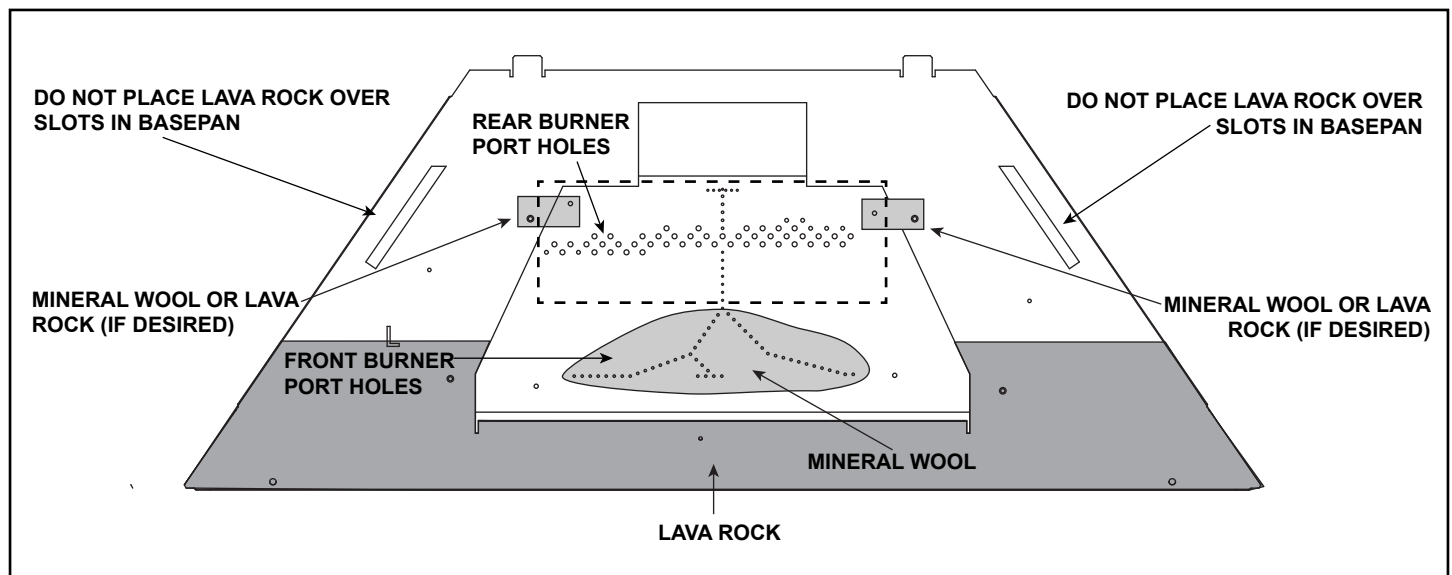

Figure 11.3 Placement of Mineral Wool and Lava Rock
- Place a small amount of 1/2 in. diameter pieces (dime-size) mineral wool on the burner pan as shown in Figure 11.3. The mineral wool may be placed loosely over the front burner port holes in the burner pan. Do NOT press them onto or into the burner port holes. This will provide the “glowing embers” look.
Place the lava rock in an even layer just heavy enough to cover the metal surface. Stay within the zone indicated in Figure 11.3. It is not necessary to use the entire bag. Save the remaining amount for future use.